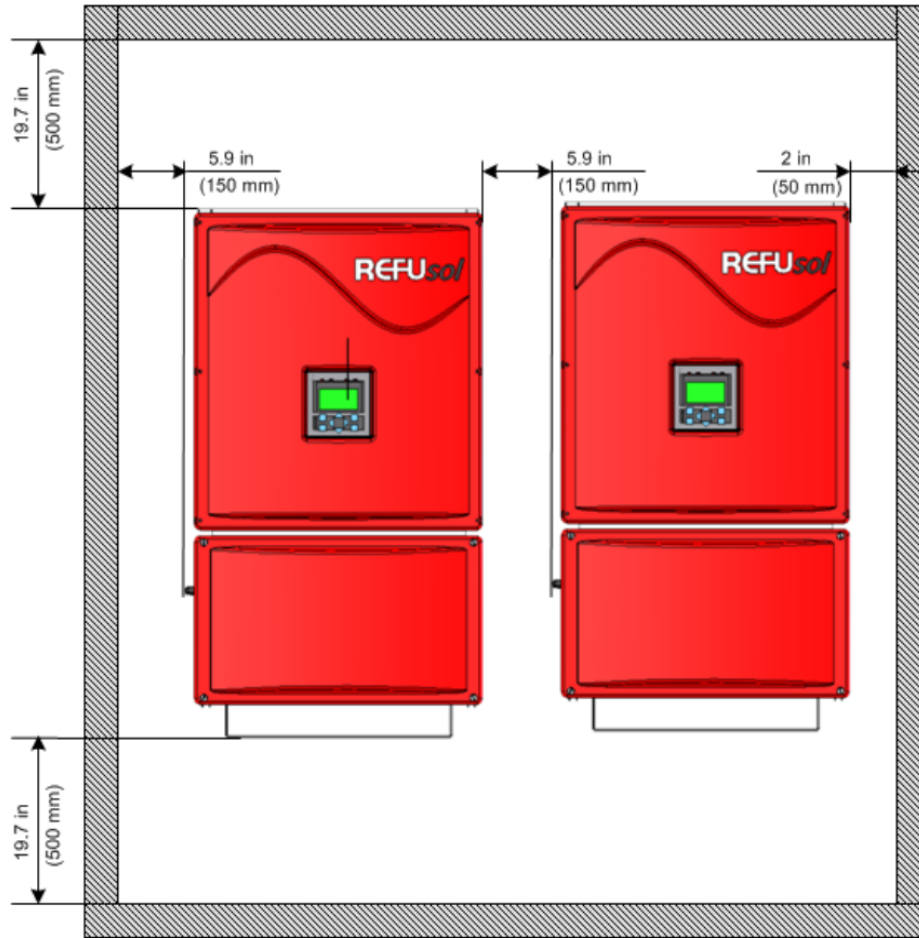

Fig. 5 Minimum clearances
The inverter may be mounted to a concrete wall or a metal framework. The mounting position must be chosen with regard to support stability, access to display, minimum clearances (see Fig. 5) and general heat dissipation.
- For minimum clearances refer to chapter 3.2.1 Requirements for the installation, Fig. 5 Minimum Clearances